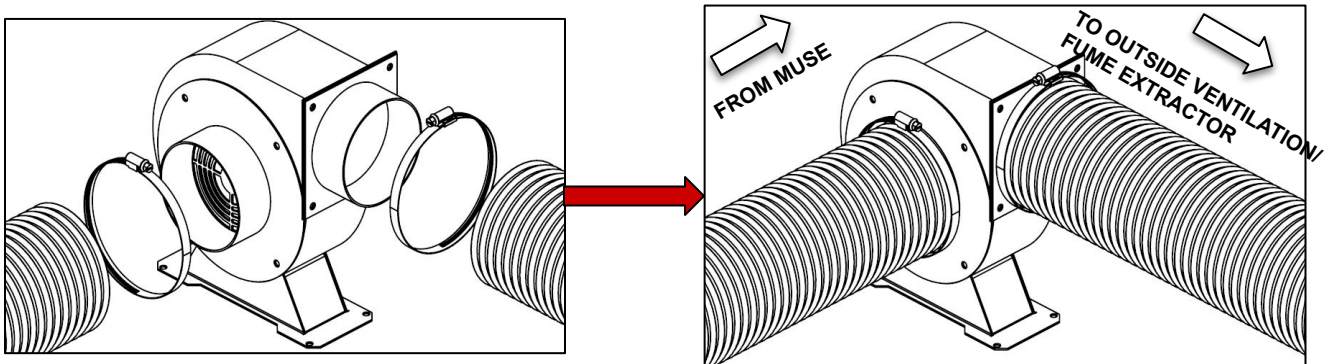

Fig. 16
3. **Attach Exhaust Fan (Optional):** Secure the free end of the ducting to the exhaust fan. Repeat the ducting and clamping process in the other side of the exhaust fan and plug in the fan into the bottom power plug marked "exhaust" on the back of your Muse Titan machine. (see Fig. 16).